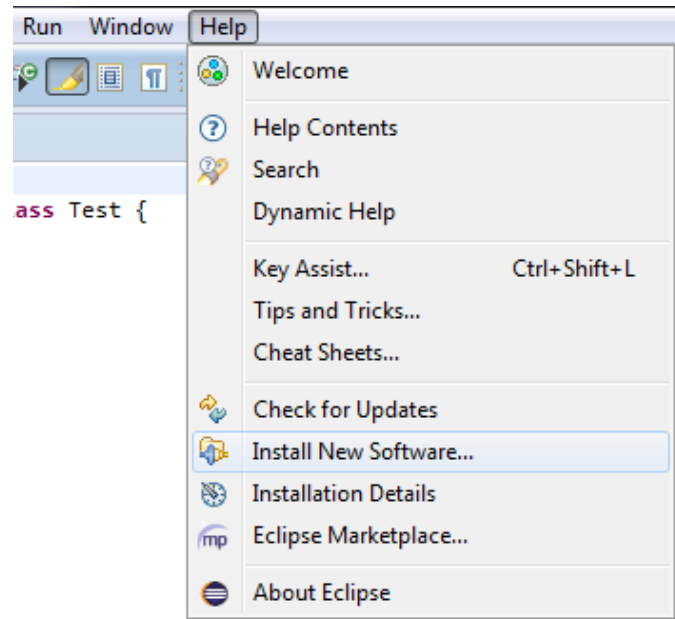

Figure 10
3. Go to Help then Install New Software on the top menu bar(see Figure 10)